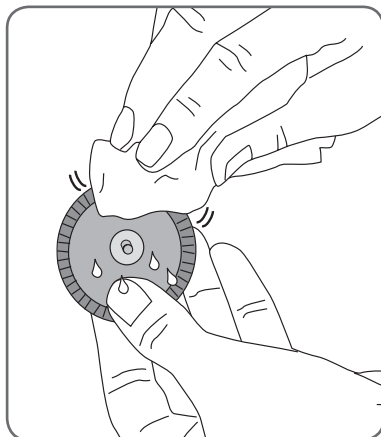

Figure 57: Blotting the snap side of the cloth electrodes.
5. With a soft cloth, gently wipe or blot excess water off the back (side with the snap) of the cloth electrodes. See Figure 57.